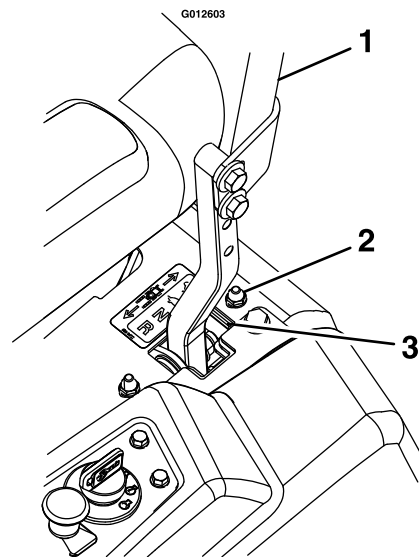

Figure 30
1. Loosen the screws on a cover plate (see Figure 30).